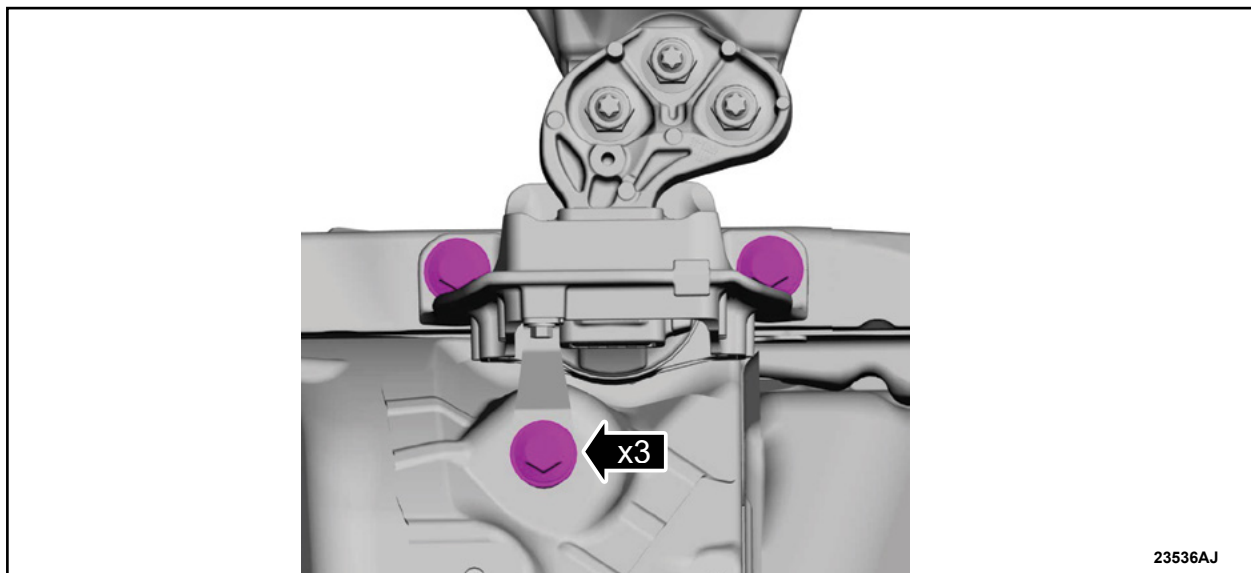

**FIGURE 39**
a. Install the engine mount and the nuts. See Figure 39.
b. Install the engine mount bolts finger-tight. See Figure 39.